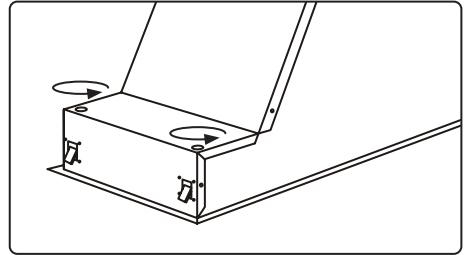

Figure 1
1. Remove the filters from rangehood by using two (2) hands to push each filter backwards until it clears the support channel at the front of the rangehood, then pivot down and out, **figure 1**.